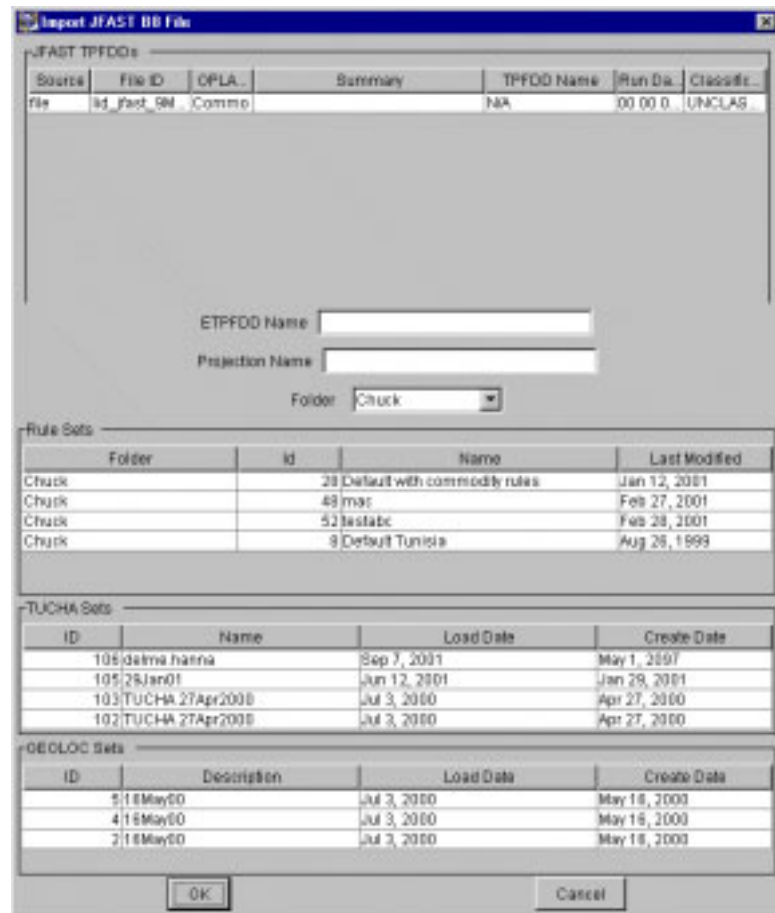

Figure 5.34 Import JFAST B8 File Window
1. On the ETEdit (main) window, on the File menu, click Import JFAST B8/Projection. The Import JFAST B8 File window opens (Figure 5.34).